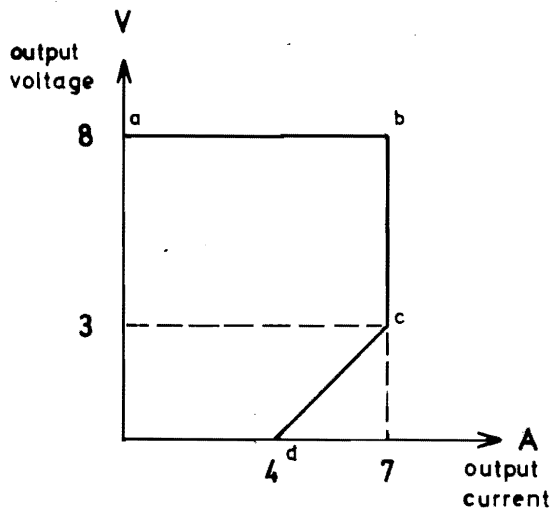

Figure 1. Voltage current characteristic.
Set "Current limit" control at a value well above the expected peak current, but below the value which could damage the load. Read output current from the ammeter (pos. 5). The characteristic of the current limit is shown in figure 1.